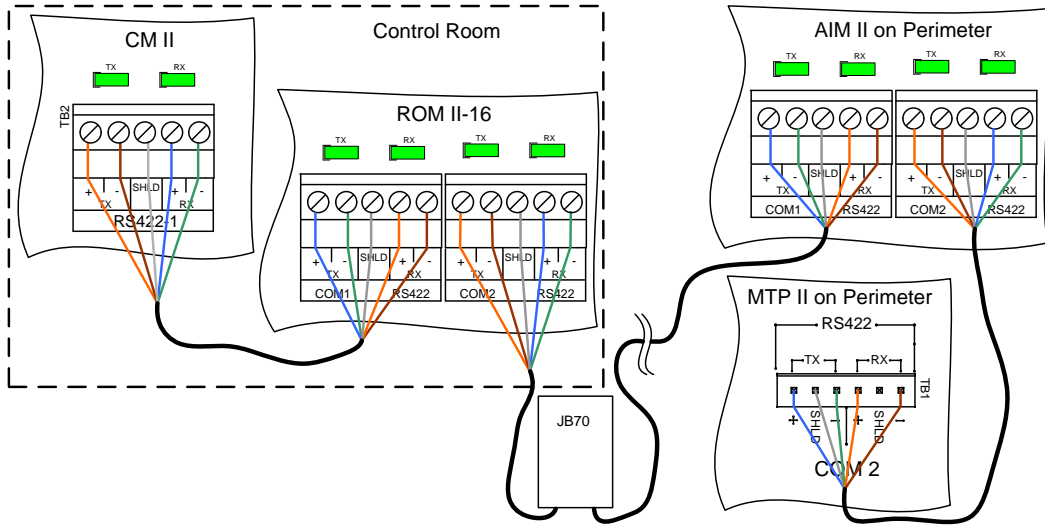

Figure 4 –CM II Communications Wiring Diagram
Figure 4 shows the typical RS422 wiring diagram from the Control Module II (CM II) to other INTREPID™ Series II devices. In this case an Alarm Input Module II (AIM II) and a MicroTrack Processor II (MTP II) located on the perimeter. The CM II and the Relay Output Module II-16 (ROM II-16) are located in the control room for relay output interface to other control room devices. A maximum of eight (8) devices can be connected to each of the RS422 communications lines. The communications is RS422 and should use a 22 or 24 gauge twisted, stranded, shielded pair wire. Fiber optic devices can be used as well. Since this RS422 communications format is a point to point configuration, no termination device is required for the last unit on the line. The RS422
communications wiring is from the transmit side of one device to the receive side of the next device with the wiring from + to + and - to - as shown in Figure 4.